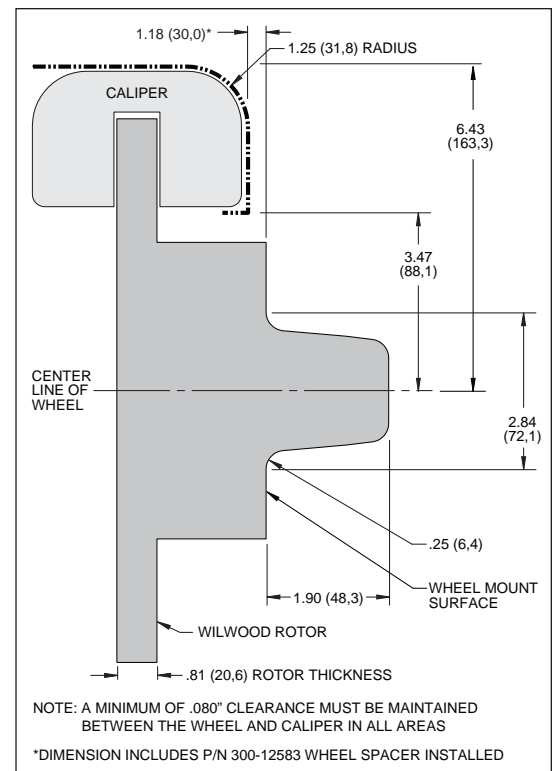

Figure 2. Wheel Clearance Diagram
- Verify wheel clearance utilizing Figure 2.
- WARNING:** The wheel contact surfaces must seat completely on the face of the hub. If any contact surfaces overhang the outside diameter of the hub face, a 6.60" diameter x .20" thick steel spacer (item 25, Wilwood P/N 300-12583) MUST be used between the wheel and the hub.
- NOTE:** The OEM 14" 4-lug steel wheel requires use of wheel spacer (25) for clearance.